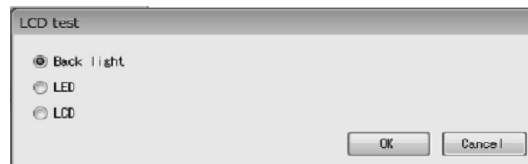

Fig.115
- ① Click the "Diag/Service (T)" menu, select "Self Diag" from the "Test/Status" drop-down list, and then click "LCD test" under that.
- ② The following window will be displayed (Fig. 115). This will test the LCD.